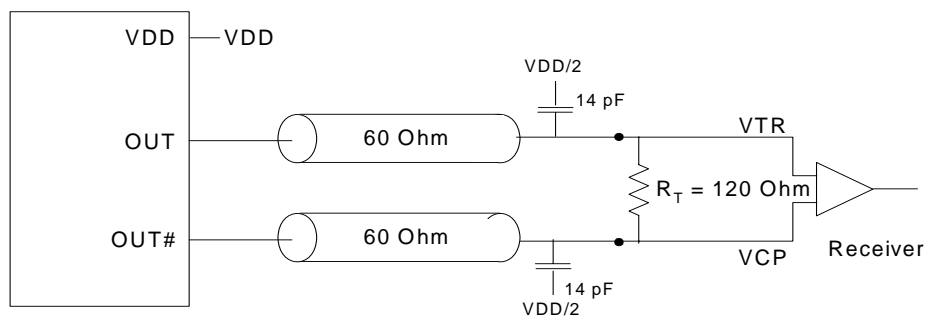

Figure 3. Differential Signal Using Direct Termination Resistor
4. All outputs switching loaded with 16pF in 60Ω environment. See Figure 3.